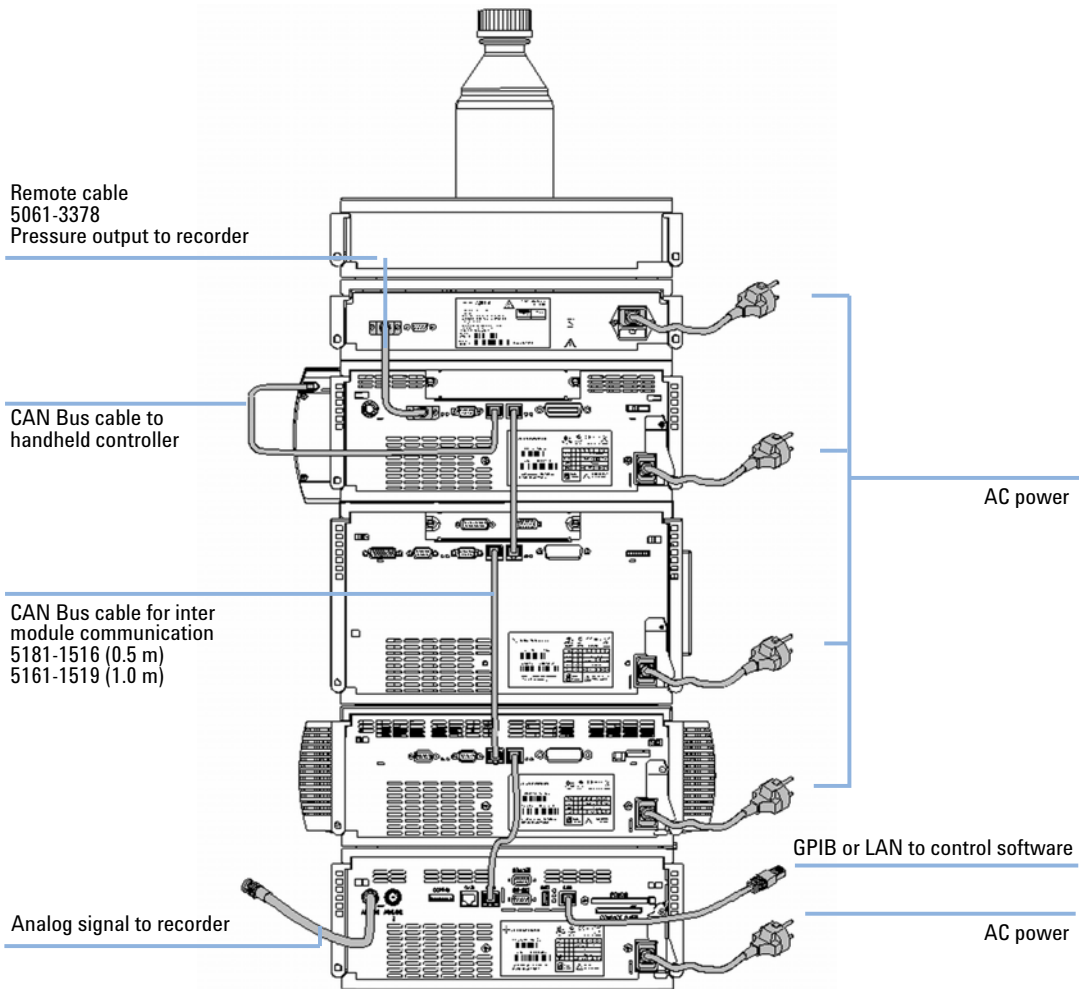

Figure 6 Recommended Stack Configuration (Rear View)
- 4** Connect the CAN cable to the CAN connector of the next module, see Figure 6 on page 29.
- 4 Connect the APG cable to the APG remote connector of the pump, see Figure 6 on page 29.